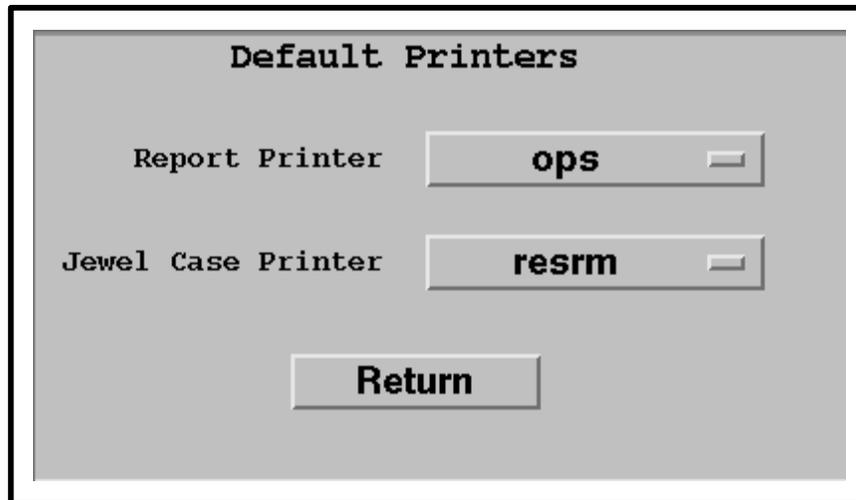

Figure 46. Default Printers Dialogue Box
- The **Default Printers** dialogue box (Figure 46) is displayed.